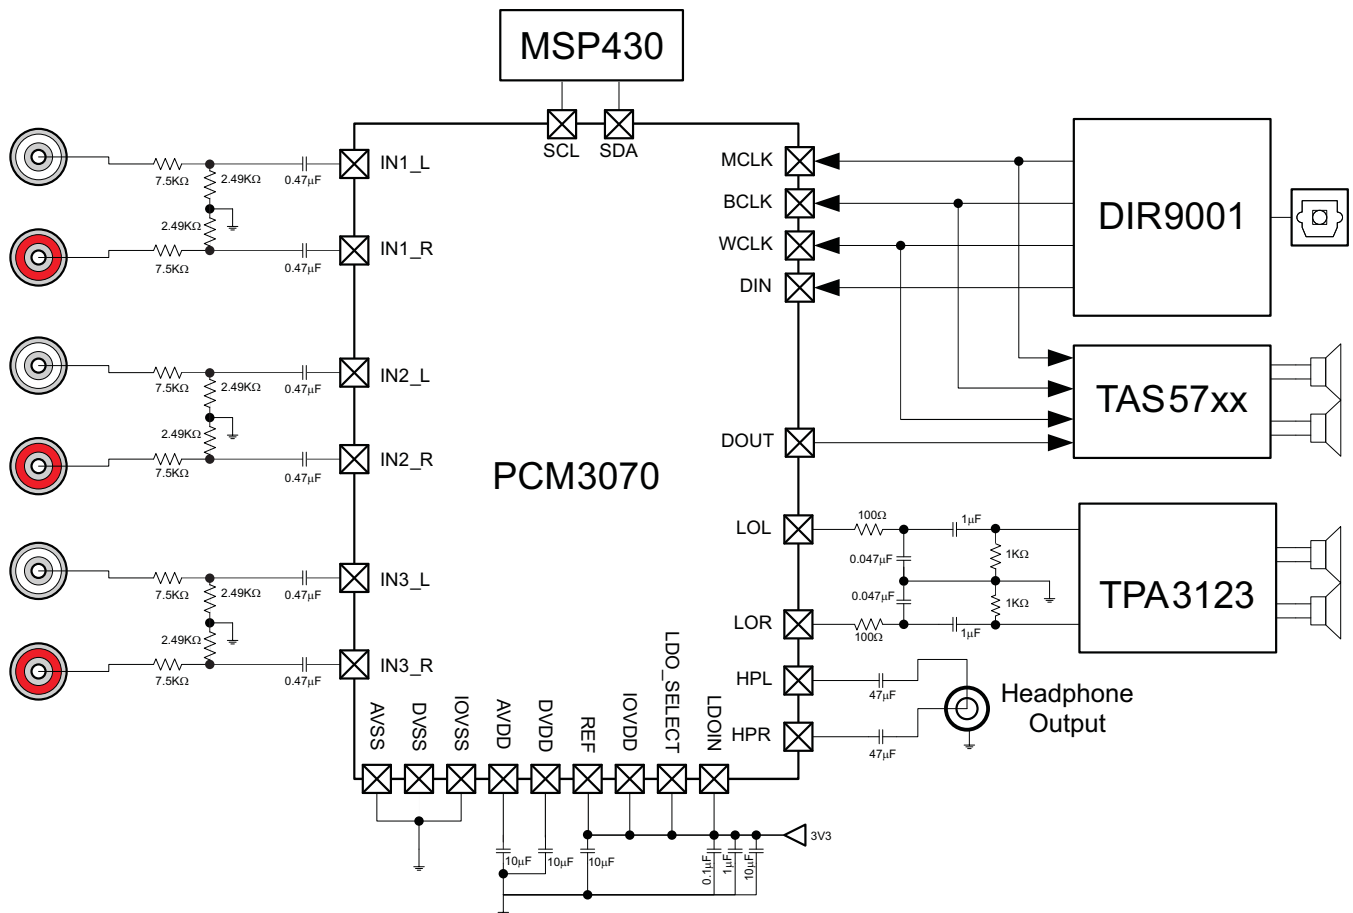

图 19. Typical Circuit Configuration
图 19 shows a typical circuit configuration for a system using the PCM3070.
Refer to Figure 19 for recommendations on decoupling capacitors.
- The decoupling capacitors for the power supplies should be placed close to the device terminals. Figure 19 shows the recommended decoupling capacitors for the PCM3070.